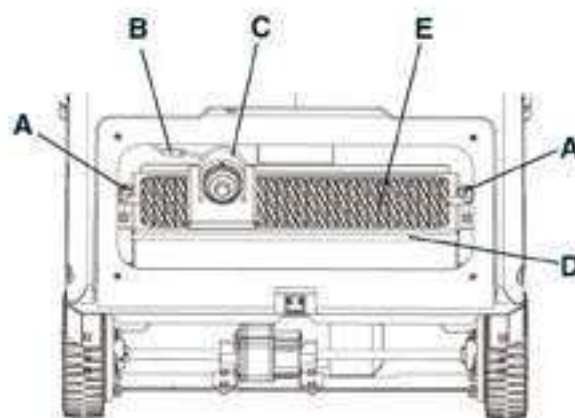

Figure9
- 1) Drive the machine on a level floor and release the pedal (2) and stop the machine.
- 3) Disengage the hook (29) by pulling its lower end.
- 4) Remove the hopper (28) by using the handle (30) and by using hand and by disengaging it from the inner guides.
- 5) Unscrew the knobs (37) and remove the filter compartment cover (36).
- 6) Loosen the knobs (A, Fig.9).
- 7) Disconnect the connector (B, Fig.9) from the filter shaker motor (C).
- 8) Remove the dust filter fastening frame (D, Fig.9).
- 9) Remove the dust filter (E, Fig. 9).
- Install the filter (E, Fig. 9) with the wire gauze (B, Fig. 10) facing upwards.